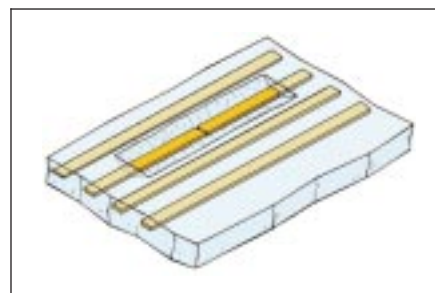

Figure 2 Laminate removed.
4. Cut the laminate at a 45° angle along the bottom edge of the damaged conductor. Ends of laminate should be cut out at a 90° angle perpendicular to the conductor. The length of the laminate removed shall allow a minimum of 1/2 inch (1.3 cm) overlap on both sides of the damaged conductor area plus room for the end fillets on both sides of the replacement conductor. (Laminate Removal = Damaged Area + End Fillets + 1 inch (2.5 cm).) (See Figure 2.)